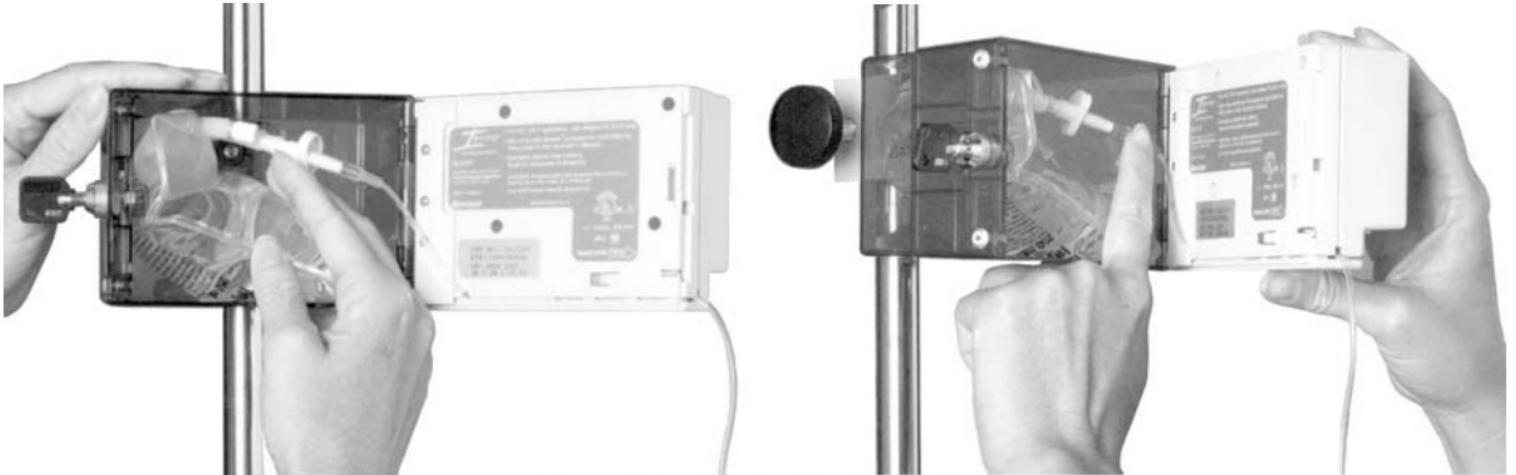

Figure 3-9 Placing the Bag in the Cover
7. **For Spiked Bag & Set Loading:** Take the spiked bag and fold it about 1/3 of the way from the spike port. Place the bag in the cover with the set pulling across the hinge of the pump and the spike pointing towards the lock or upper corner above the lock (see Figure 3-9).
For Luer Lock Bag and Set Loading: Place the Luer Lock bag in the cover with the Luer Lock connector closest to the pump (see Figure 3-9).